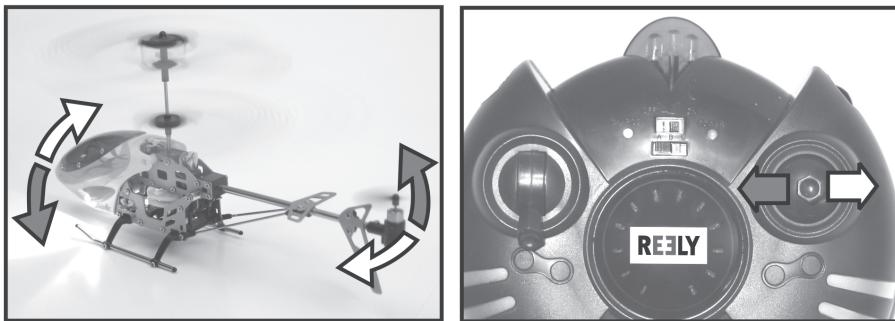

Figure 10
As the helicopter is equipped with two counter-rotating rotors, there is no torque around the yaw axis (rotor shaft). The helicopter does not need a functional tail rotor for lateral stabilization. To allow the model to turn around the yaw axis (rotor shaft), the two main rotors run at slightly different speeds and the model begins to turn (see figure 10). The tail function is controlled with the right control lever (see figure 1, item 5). If the lever is pushed slightly towards the left, the tip of the fuselage turns towards the left. If you steer towards the right, the tip of the fuselage turns likewise towards the right.